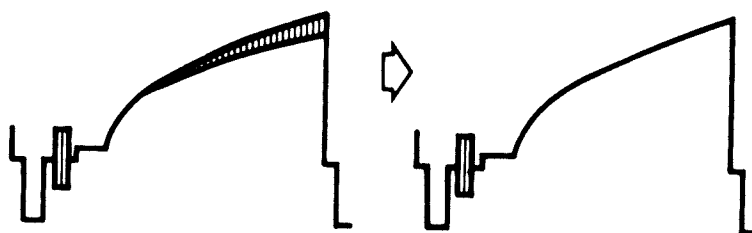

Figure 5-28. Pregamma Trim Minimum Carrier Leak Adjustment
STEP 3 Turn R239 PRE GAMMA ADJ fully ccw. Adjust R242 PRE GAMMA TRIM for minimum carrier leak at the top of the test signal only (Figure 5-28).